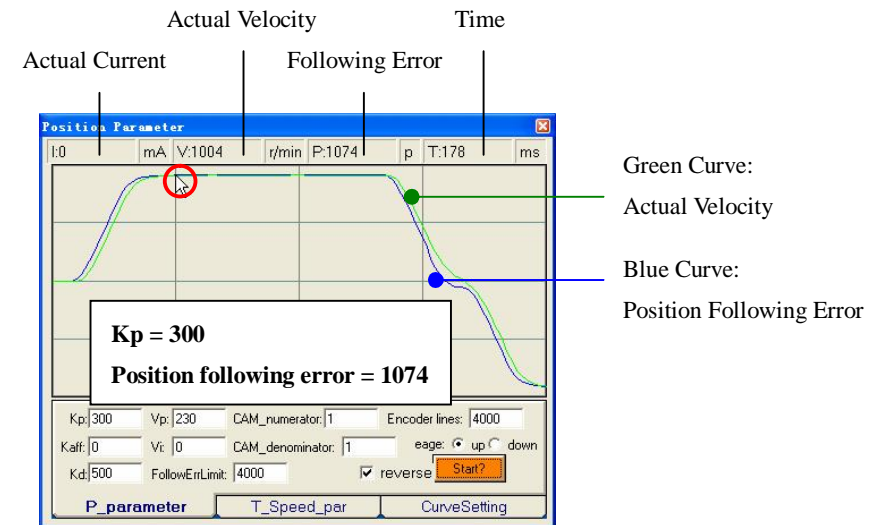

Figure 6-28: Digital scope for position/velocity loop tuning
**Step 2:** Increase **Vp** until motor noise/vibration begins. Then back off. To activate the noise/vibration, sometimes you need to give a disturbance to the load by either clicking the **Start** button or trying to push/pull the load. In this example, we give **Vp** 120, 150, 200, 250 and find that the noise/vibration at **Vp**=250 can be accepted. So we stop increasing **Vp**. Figure 6-28 shows the velocity (The green curve) and position following error (The blue curve). And we can see the current position following error is 1074 at the top of the digital scope.
**Tip:** The digital scope displays actual velocity (the green curve) and position following error (The blue curve) as shown in figure 6-28. It is the result of the trapezoidal velocity test by clicking **Start** button. Click the button once again to hold on the curves (The button caption is “**Start**”). Otherwise the scope will be always updated (The button is “**Stop**”). The user can put the mouse (cursor) on the curve to check the curve point value at the top status bar.